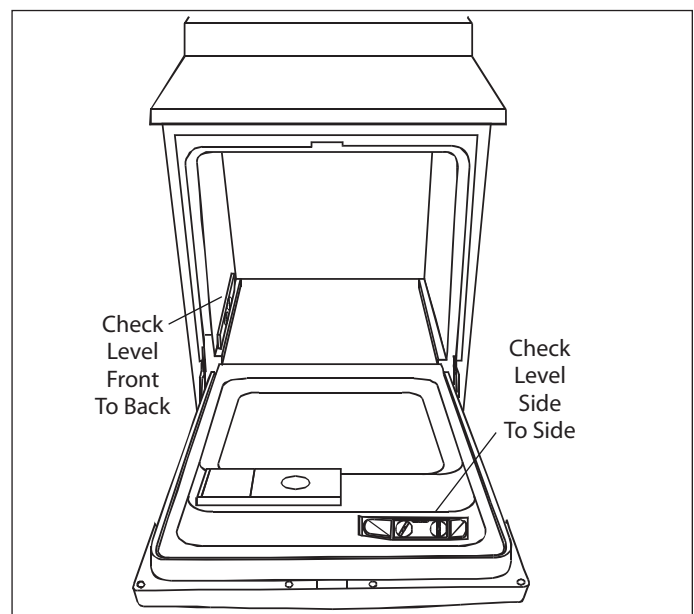

Figure 2-14.
1. Place level on door and rack track inside the tub as shown to check that the dishwasher is level. (See Figure 2-14)